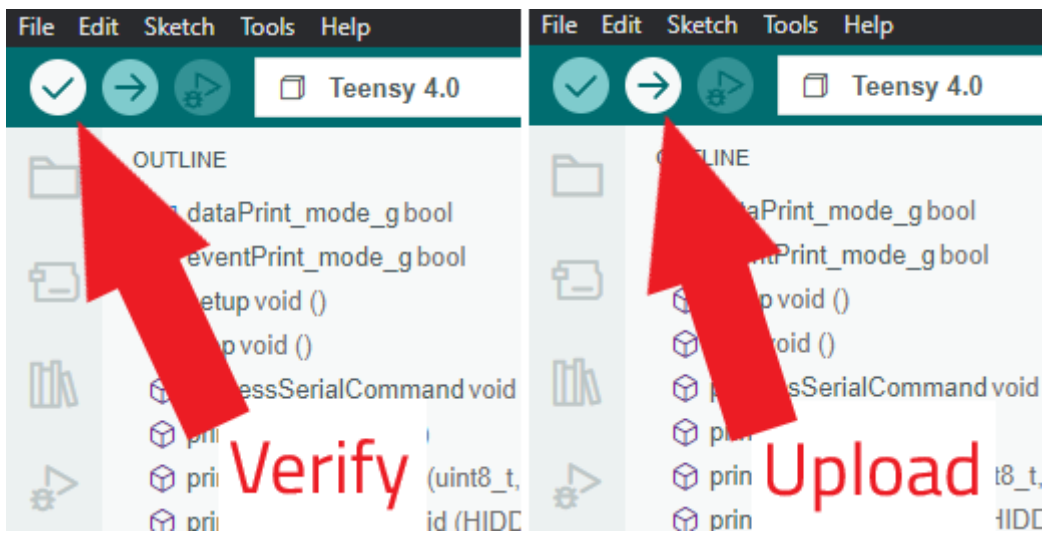

Figure 6: Verify and Upload buttons in the Arduino IDE.
5. Click the “Verify” button to check the code and compile it. Then select “Upload” to program the Teensy board (see Figure 6). Once the upload is complete, press the white button on the Teensy 4.0 module to force a program-load (this is the only way to ensure new code is uploaded) (See Figure 7) NOTE: the first time compiling the code may take a while. Subsequent compilations are much faster. Also note that an additional window will open showing the TeensyLoader window which will also direct you to push the white button on the Teensy module (See Figure 8).